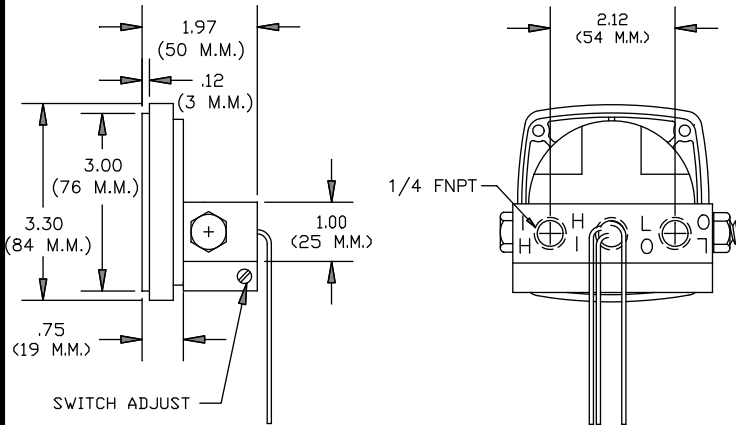

**FIGURE 2**
(Fig. 2)
The standard switch enclosure is weather resistant with 24" flying lead wire interface. A rubber grommet provides the seal around the wires (See Figure 2). (Options A & B)
Standard location of a SPDT switch will be on the bottom of the gauge for a standard port gauge. For a reverse port gauge the switch will be on top. (See Figure 2). SPDT Switch leads are color coded and labeled as follows:
**NOT SHOWN: (Fig 2 & 3)**